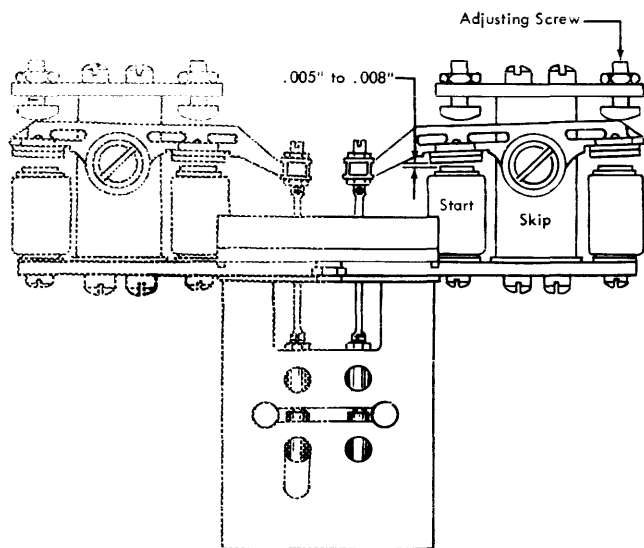

Figure 46. Space Start Magnet Energized
8. With the space-start magnet energized, adjust the backstop farthest from the operating rod for .005" to .008" clearance (preferably .005") between the armature and the start-magnet cores (Figure 46).